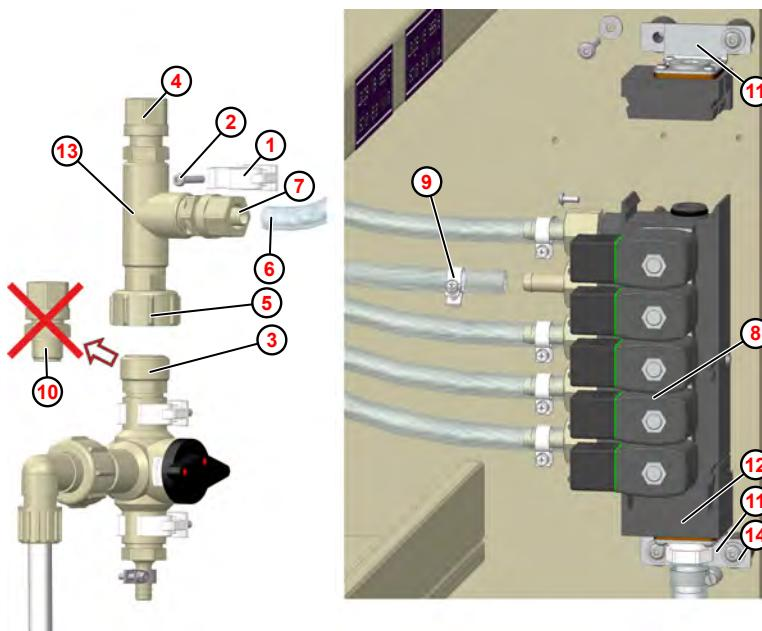

Fig. 12: Assembly water flushing
- 3.** Loosen the fastening screws on both sides (4 x, Fig. 12 , No. 14) on the fastening brackets (2 x, Fig. 12 , No. 11).
- 5.** Loosen end piece (Fig. 12 , item 12) and pull off.